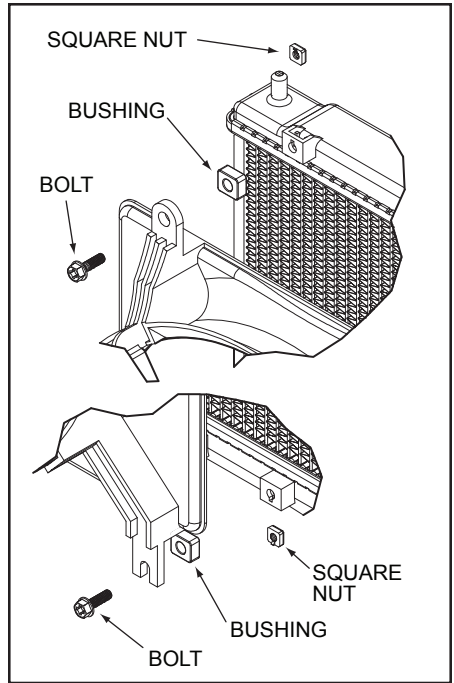

Fig. 1
- **Radiator Fan and/or Condenser Fan mounting hardware** – If there is fan mounting hardware on the original radiator, and replacement hardware is not provided, it must be removed and reused, or new hardware must be purchased and then installed. (See Fig. 1)